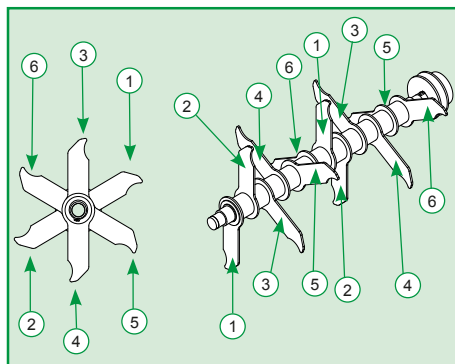

Figure 4
- ✓ On the side of the pulley, remove the parts (1, 2 & 3), as well as the inner belt protection plate (11).
- ✓ To reassemble the entire disc and keep the same balance proceed as follows. Place the retaining ring (6) into the cavity of the spindle (5), place the blade (7) by inserting a padding (8) between them, depending on the angle and position shown in Figure 4, then proceed until the blades and paddings are mounted on the spindle (5). Finally, place the washer (10), the retaining ring (6) into the spindle cavity (5) and fit the bearing case (9) with the bearing (4) on the machine base by securing it with the nuts (1), washers (2) and screw (3).